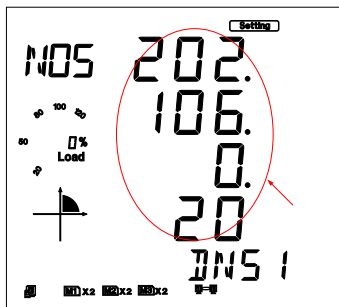

Fig 5-33
7. Set DNS Primary Server in the fifth setting page, such as 202.106.0.20. Press the "V/A" key to go to the setting page. Users may set the parameters pointed out in Fig 5-33. The cursor starts at the first digit. After setting the DNS Primary Server, press the "V/A" key to accept. Press the "P" key to go to the sixth setting page for DNS Secondary Server.